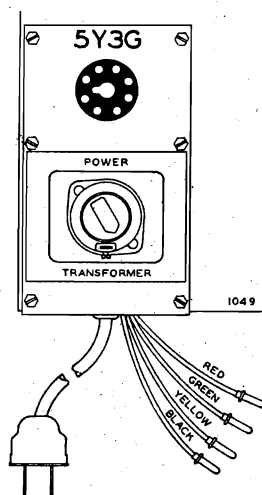

FIG. 2—MODEL 709
5. Place the model 709 A.C. power unit (see Fig. 2) on the top of the radio chassis and plug the four flexible leads into the pin jacks on the chassis connector strip.